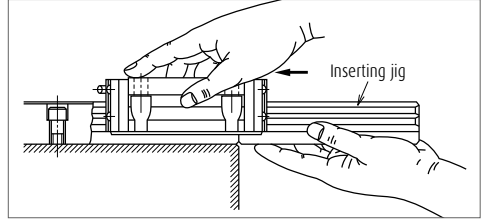

Fig. 27
- › If it is unavoidable to remove slides from the rail, make certain to use a provisional rail (a jig used to insert a slide to the rail) as shown in **Fig. 27**.